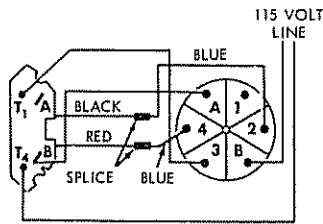

Figure 6
- The motor may be operated with a reversing switch (9M2982 in catalog), provided connections are made as shown in figure 6. The motor must come to a complete stop before reversing can be accomplished. If motor rotation does not correspond to switch notations, interchange switch leads 2 and 4.